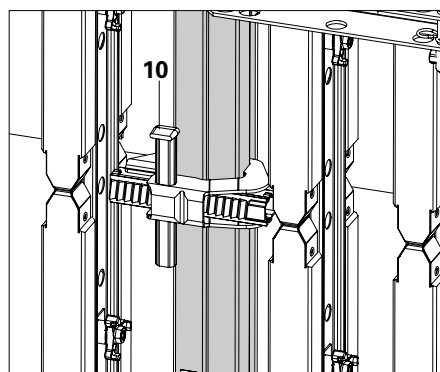

Fig. A9.02a
For ensuring a neat panel joint on extended formwork, position one additional Alignment Coupler BFD (10) so that all four panels are held at the same time. (Fig. A9.02a)